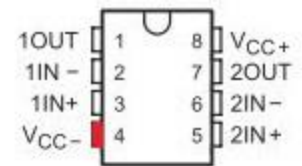

Figure 7b: Port 4 - attach your negative voltage supply here
- Take the wire that is plugged into the negatively powered vertical node and attach it to port 4 of the op-amp. The bottom left port denoted in red in Figure 7b.